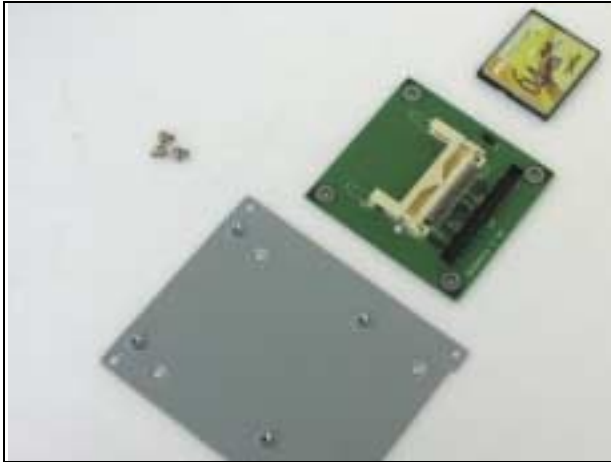

Fig. 2-20a A CF and the CF bracket
1. Fasten the four screws to lock HDD and bracket together (**Fig. 2-20a, 2-20b**).